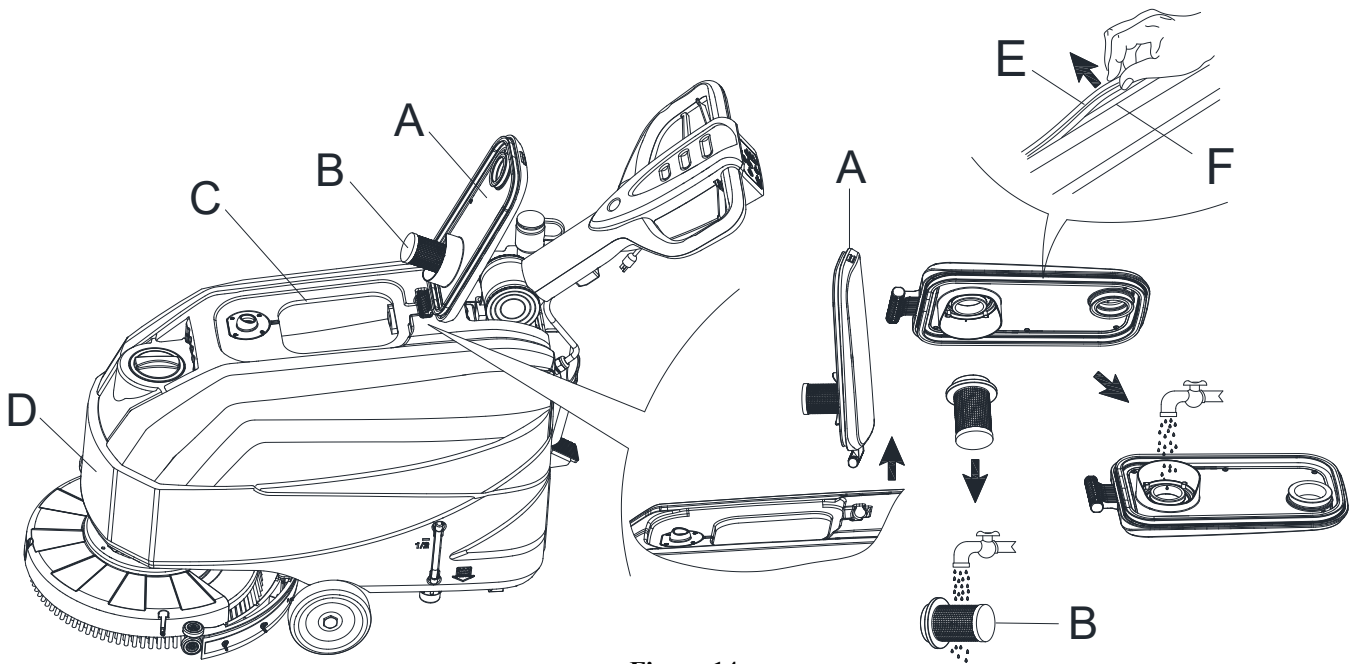

Figure 14
3. Turn the recovery tank lid (A, Figure 14) 90degree position where it can be taken off from the recovery tank, and then take out the float ball filter (B) from the recovery tank lid.
7. Check whether the contact surface of sealing strip (E) has integrity and sealing is sufficient. If necessary, take the sealing strip of the tank out of the groove (F) and replace it. Assemble the new sealing strip as shown in (Figure 14), the joint should be back in the middle area.
8. Close the recovery tank lid (A).